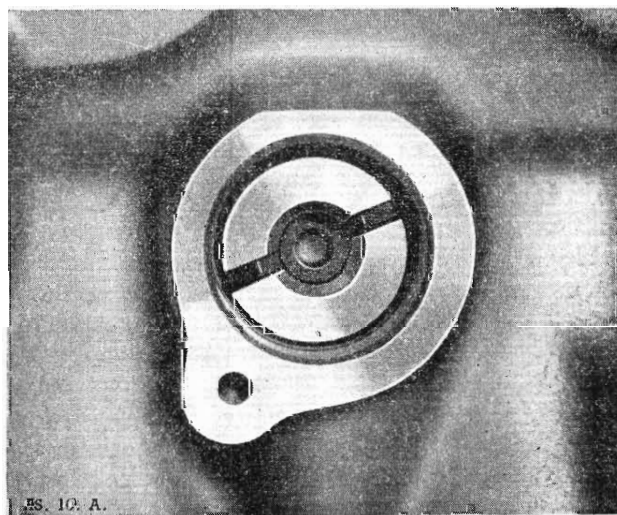

Fig. B.4. Distributor drive, showing the off-set slot in the correct position.
- (4) Screw the  $\frac{5}{16}$  in. U.N.F. bolt into the threaded end of the distributor drive and replace the drive into its housing so that the off-set slot takes up the position in Fig. B.4.
- (5) Replace the distributor following the instructions given in Section B.5.